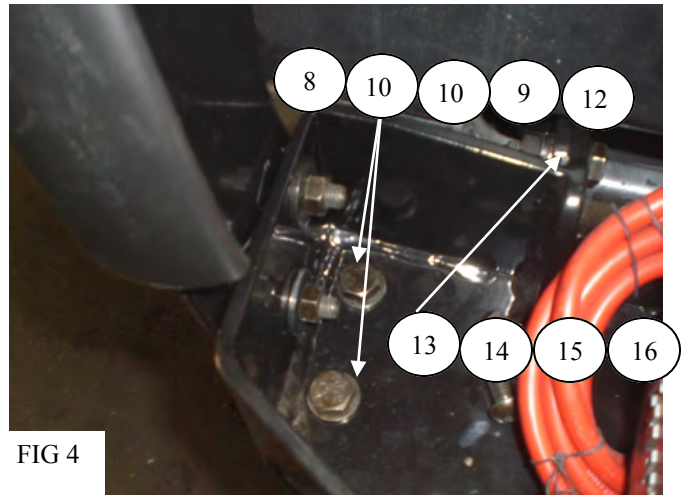

FIG 4
5. Take the winch tray and position it onto the lower mounting brackets, loosely attach the winch tray using (4) M12 x 35mm hex head bolts, (8) M12 flat washers, (4) M12 lock washers, and (4) M12 hex nuts FIG 4.
8. Attach the upper mounting brackets to the winch tray using (2) M10 hex head bolts, (4) M10 flat washers, (2) M10 lock washers, and (2) M10 hex nuts FIG 4. Do not fully tighten at this time.